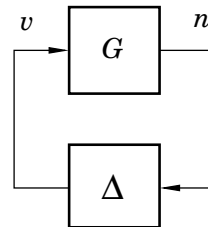

Figure 2.4 System in Problem 2.3.
- 2.3 Consider the system in Figure 2.4, where Δ is an unknown dynamical system, and G is a static TITO system